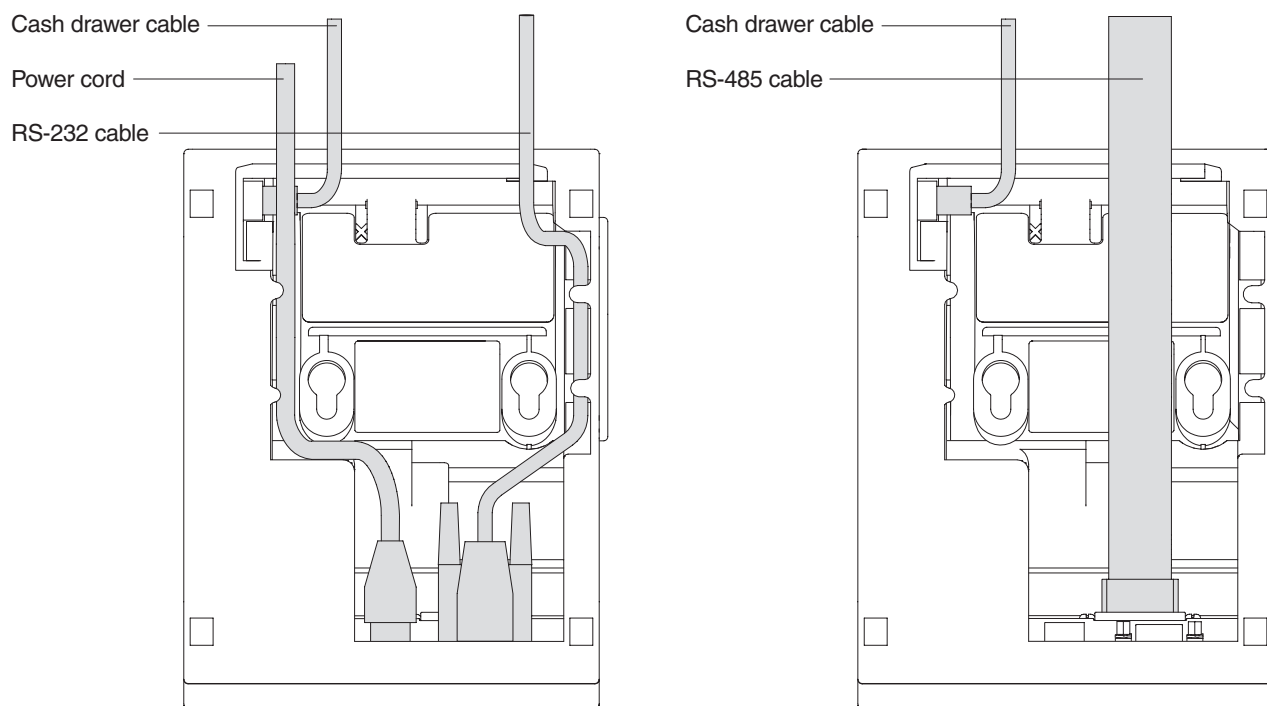

Figure 8. RS-232 and RS-485 Cable Routing for Single-Station SureMark Printers
5. For single-station printers, route any power cord and cables as shown in Figure 8 on page 20.